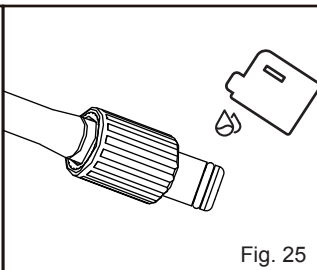

Fig. 25
- To ensure an easy connection and O-rings do not dry up, the couplings should be greased regularly (Fig. 25).